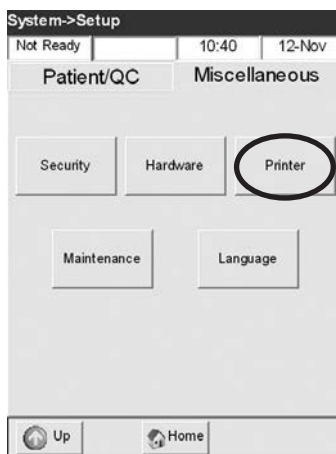

Fig. 3-45 Select Printer
2. In the **<System Setup>** menu, press the **<Miscellaneous>** tab and then **<Printer>** (Fig. 3-45).